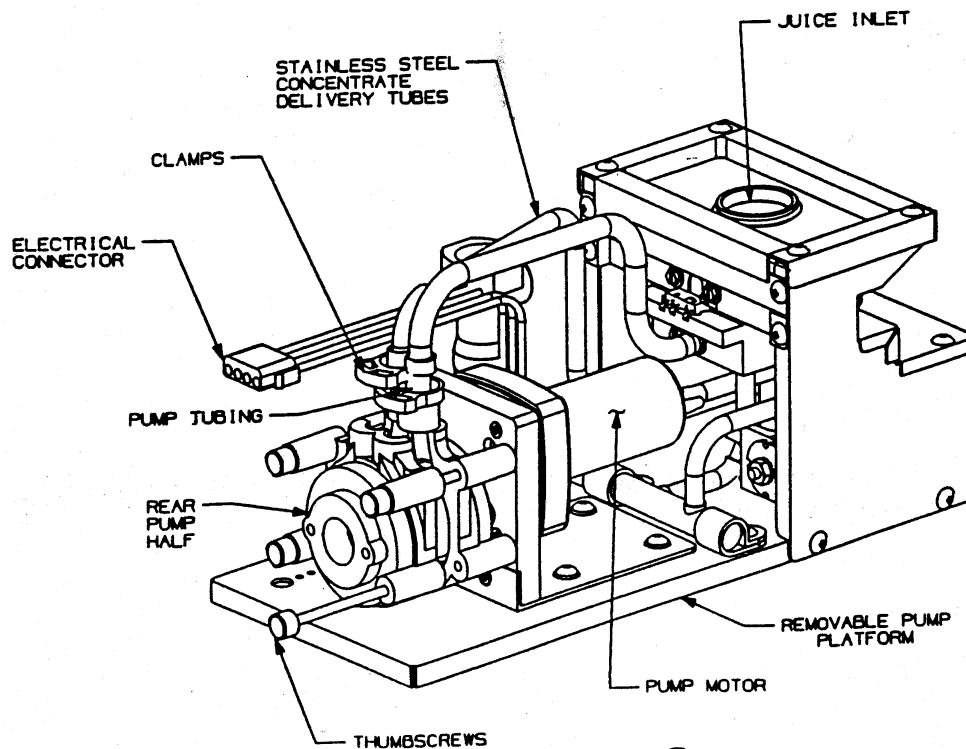

FIG. 2
**Replacement of Pump Hose (see figure 2):**